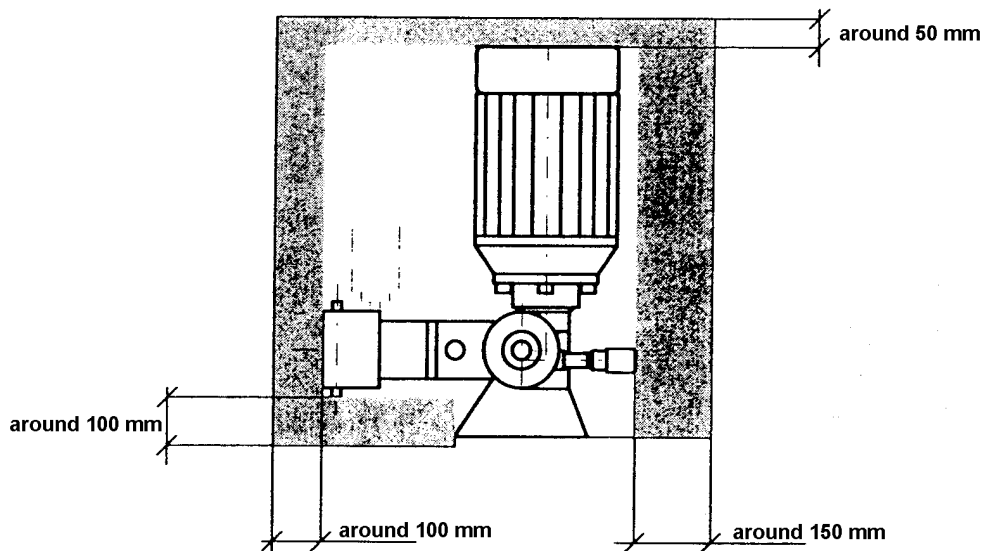

Fig.1
- Place the machine in a vertical position as shown in Figure 1 and on a sturdy resting place (made of metal, cement, etc.).